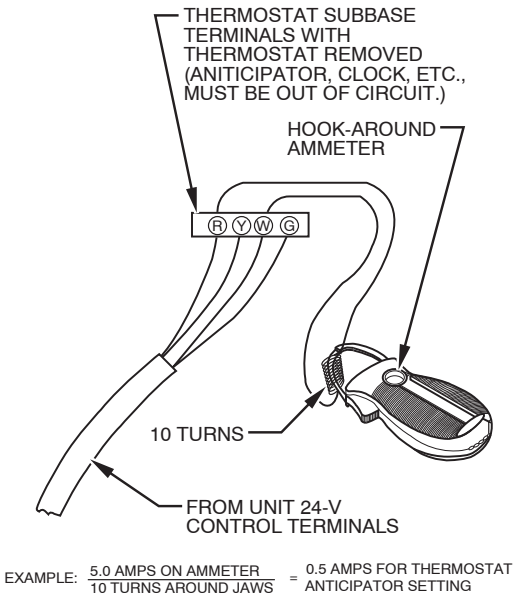

Fig. 34 - Amp. Draw Check With Ammeter
- (2.) Connect an amp. meter as shown in Fig. 34 across the R and W subbase terminals or R and W wires at wall.